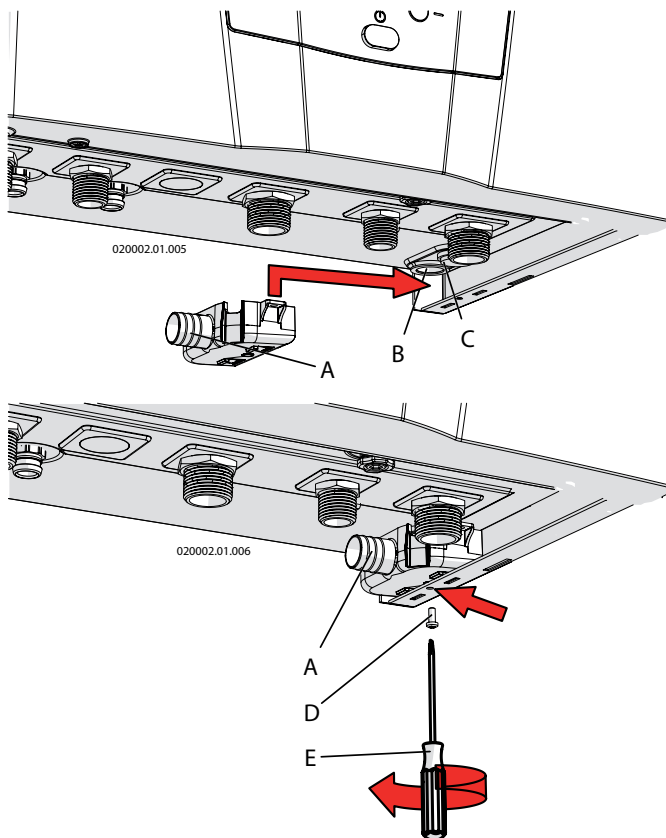
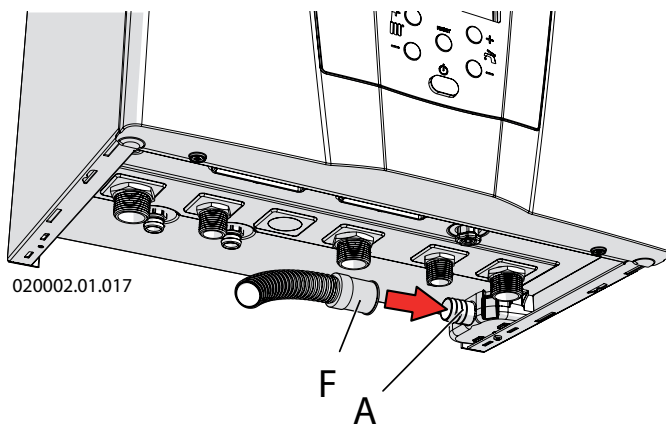
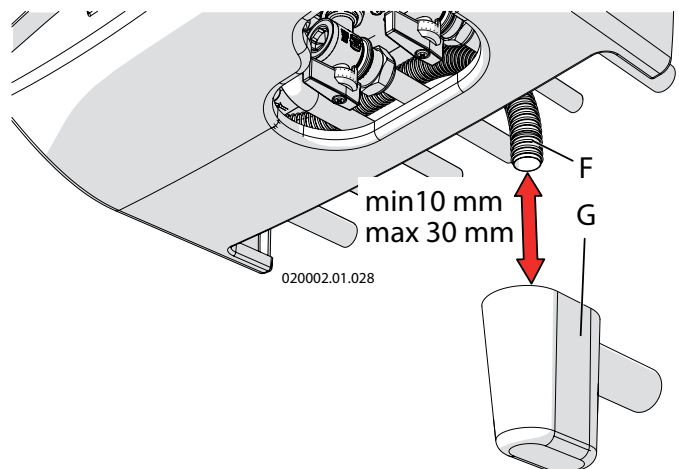

Figure 5.4 - Safety valve drain and condensate drain connection
Figure 5.5 - Condensate drain pipe
Figure 5.8 - Siphon funnel (on request)
There is a siphon inside the appliance for the evacuation of condensate (see figure 3.1 detail "40") and to prevent combustion products from escaping, whose end corresponds to the pipe "B" in figure 5.4. This termination must be conveyed into an anti-odour siphon (figure 5.8 detail "G") to prevent bad odours returning into the environment (the anti-odour siphon "G" is supplied on request). The tank "A" is mounted in the factory as indicated in figure 5.4, the exhaust pipe "F" is mounted in the factory as indicated in figure 5.5. In particular, the condensate discharge must comply with the following:
- ☞ for room used for residential purposes and for office with more than 10 users, it can be connected to the domestic waste disposal plant by means of appropriate siphon with disjunction capable of preventing the pressurisation of the system (siphon prepared within appliance) and to prevent the return of bad odours from the sewer (detail "G" in figure 5.8). If the room used for office purposes has less than 10 users, before connection with the domestic waste drain, a condensate neutraliser is good practice (see chapter 9 for the value of acidity of the condensate and the quantities).
The appliance is protected against overpressures by a safety valve calibrated to 10 bar (see figure 3.1 detail "28"). The safety valve drain (detail "C" in figure 5.4), along with the condensate drain (detail "B" in figure 5.4) must be conveyed to a pipe "F" (see figure 5.5) with minimum internal diameter of 13 mm. The pipe "F" must be then taken to the anti-odour siphon (detail "G" figure 5.8). This drain with siphon is used to prevent overpressures if the valve is opened and makes it possible for the user to check the eventual intervention. The pipe "F" in figure 5.5 is supplied by standard along with the tank "A" in figure 5.4. The anti-odour siphon "G" in figure 5.8 is provided on request.